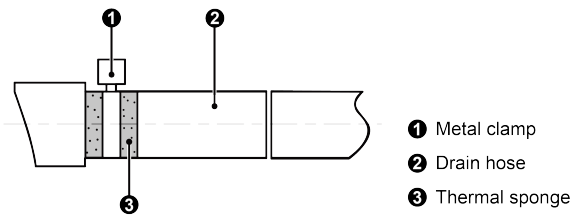
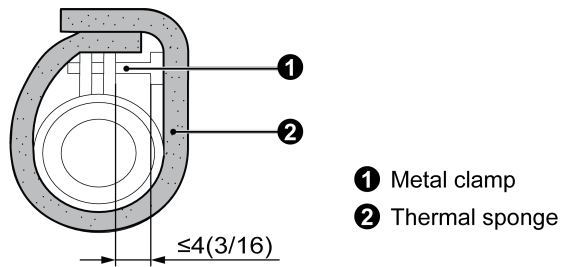

Fig.4.3.2
Fig.4.3.3
- (1) Insert the drain hose into the drain hole and tighten it with tapes, as shown in Fig.4.3.2. Model with water pump will be provided with drain hose, while other models please prepare the drain hose by yourself.
- (2) Tighten the pipe clamp, with the distance between screw nut and hose smaller than 4mm (3/16inch).
- (3) Use sealing plate to make the pipe clamp and hose insulated, as shown in Fig.4.3.3.